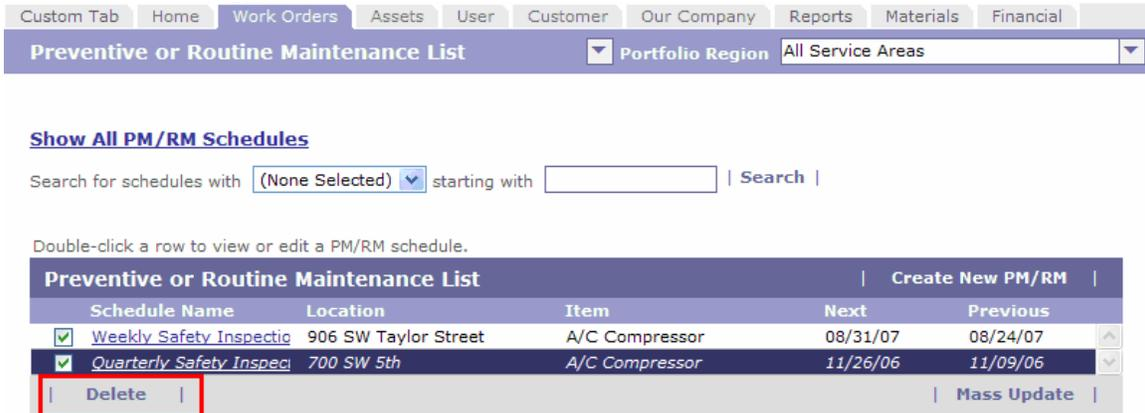

Figure 12: PM/RM Schedule Page
- PM/RM List Page. Schedules can be multi-selected and then deleted as shown in Figure 12, below.